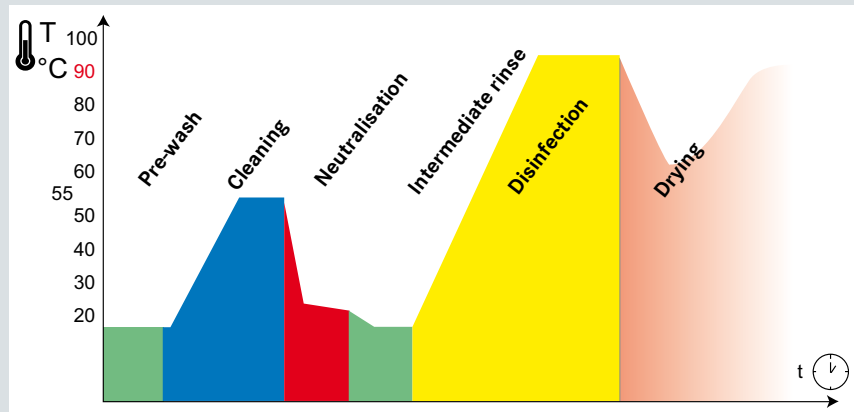

Fig.1 Diagram of the program sequence of Vario TD-programme
* Should the Miele washer disinfector be unavailable, please observe the parameters of the Vario TD-program sequence (see fig. 1)
4. Start the Vario TD-programme (for diagram of program sequence see fig. 1) including thermal disinfection.